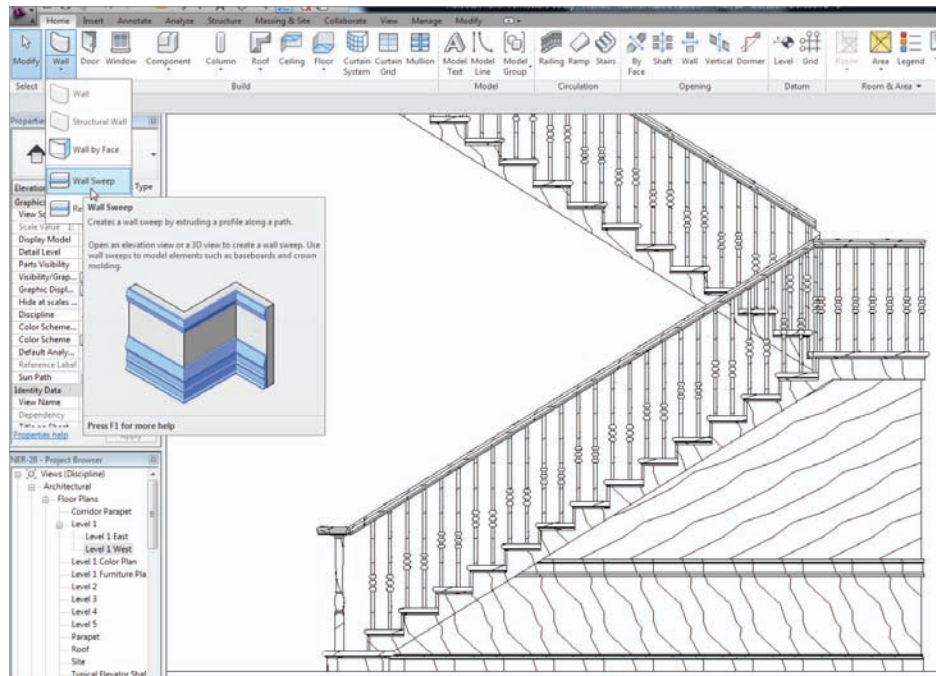

FIGURE 16.16 Choosing the Wall Sweep command
1. Go to the elevation shown in Figure 16.16 (the first one you placed, looking at the stairs).
2. On the Home tab, click the down arrow on the Wall button, and select Wall Sweep (see Figure 16.16).